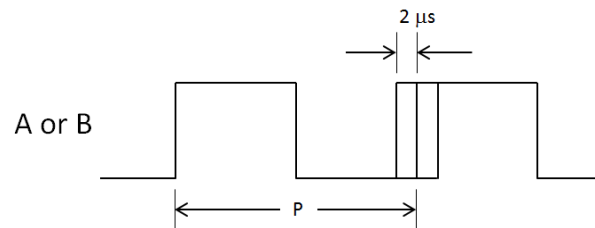

Figure 13: ABZ Jitter
The ABZ state is updated every $2\mu s$. This means that at a high RPM, an ABZ jitter is caused by the discretization of the pulse length. For instance, at 15,000 RPM, the period (P) of the signal A or B is $16\mu s$. Therefore, the jitter is $2/16 = 12.5\%$. Note that the raising edge of Z occurs exactly at the sensor zero position. Due to the 1 LSB hysteresis introduced on both the A and B channels, the Z edge is not necessarily synchronized with an A or B edge (see Figure 13).